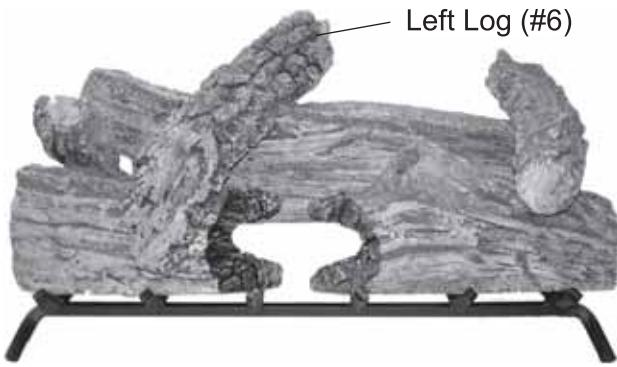

Figure 118 - Installing Left Log (#6)
7. Rest front of Left Log #6 just left of the middle of Log #1A and back end of Log #6 just left of middle of Log #3. See Figure 118.